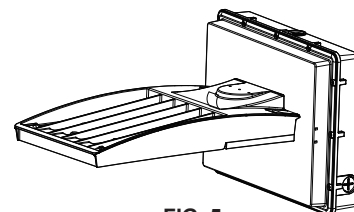

FIG. 5
6. Replace the EM extension cover onto the extension box. Ensure that the gasket in-between the cover and box fits in place. Secure the cover to the box using the twelve (12) M4 screws previously removed in step 1 (see FIG. 5).